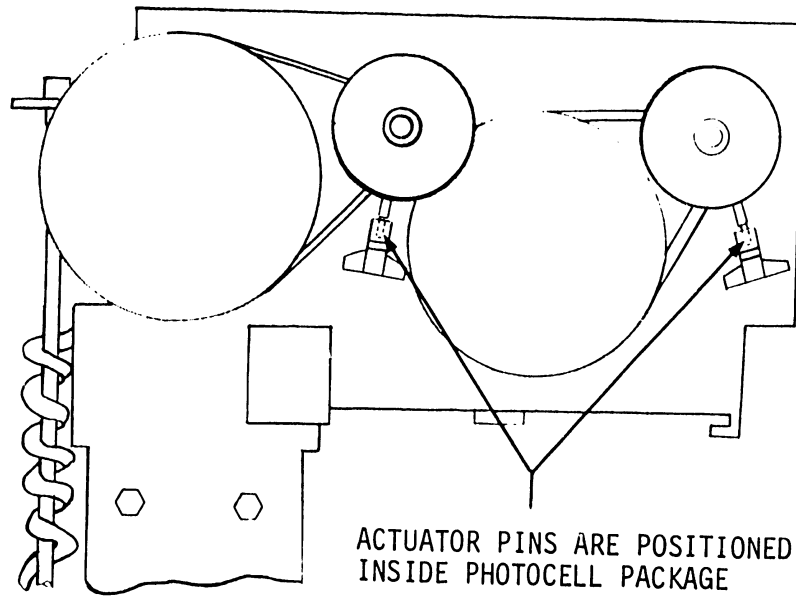

FIGURE 19
- (h) With the carrier and the Y arm in the home position, the actuator pins should be inside the LED/photocell packages. See Figure 19.